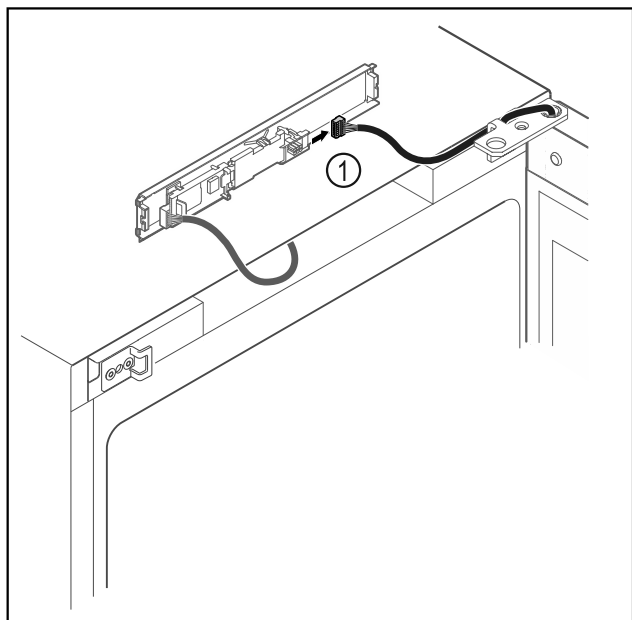

Fig. 16
- Disconnect the plug Fig. 16 (1) from the circuit board.